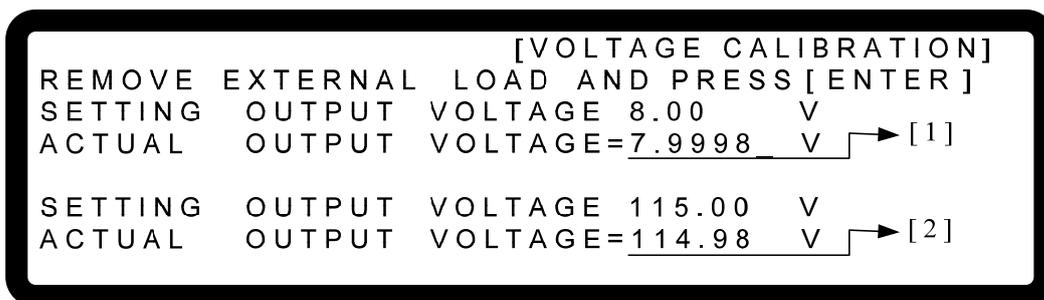

Figure 3-93
5. First does the low voltage range calibration, the instrument will output the voltage to 8.00V and the cursor is stopped at position [1] as Figure 3-93 shows. Enter the voltage measured by DVM to position [1] and press " " to confirm.
6. Press " " again to do the low voltage range calibration for its second point, the instrument will output the voltage to 115.00V and the cursor is stopped at position [2] as Figure 3-93 shows. Enter the voltage measured by DVM to position [2] and press " " to confirm.
2. It is necessary to remove the output load when performing voltage calibration. The LCD panel will show the text as Figure 3-93 and once no load is confirmed for the output, press “” to start calibration.